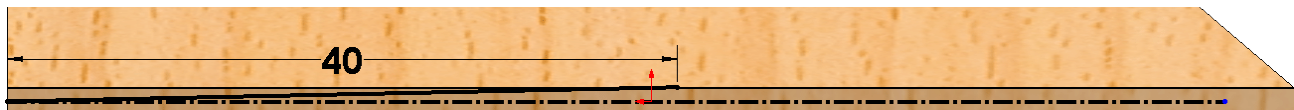
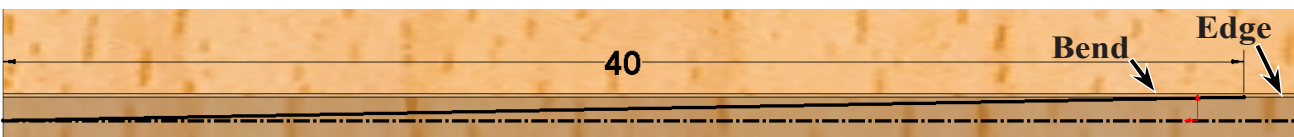

Fig. 20
Fig. 21
Step 8. Add the **40** dimension, **Fig. 20**. Confirm spline is drawn to edge and not bend. If necessary zoom in, **Fig. 21**.